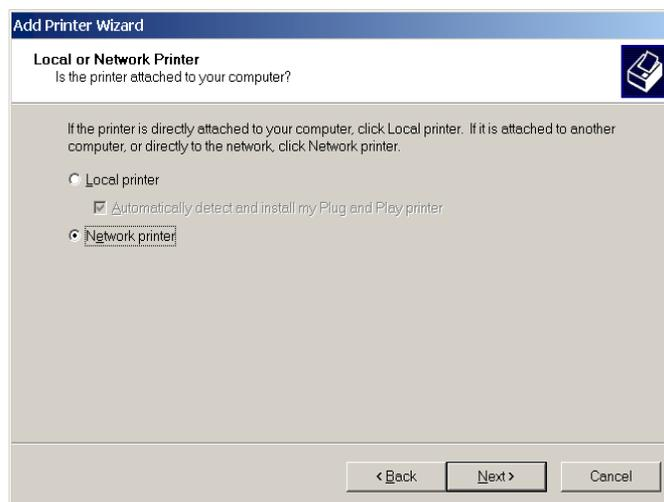

Figure 2, Local or Network Printer
7. The second page of the **"ADD PRINTER WIZARD"** will be displayed, as shown in Figure 2. Click on **"LOCAL PRINTER"**. Uncheck the **"Automatically detect and install my Plug and Play printer"**. Click on **<NEXT>** to continue.